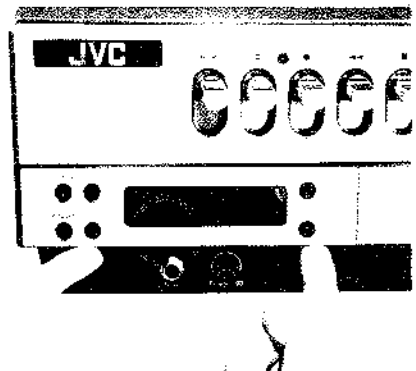

Fig. 4-5A
5. Push the tips timer by fingers as shown Fig. 4-5A.